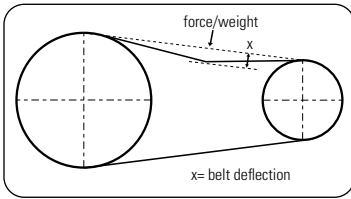
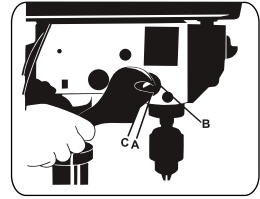

FIGURE 8.15 - BELT DEFLECTION
FIGURE 8.17
- Push the motor backwards until reaching the desired tension on the belt (Figures 8.15 and 8.16).
- The deflection should be 1/2" (x = 12,5mm) + 10% (Figures 8.15 and 8.16).
- When operating in places with a voltage different from the indicated, use a voltage transformer (not supplied with the product). Check the alignment of the pulleys and the belt tension before the first use (Figures 8.15 and 8.16).
- Place the screw driver in the lower front slit (A) on the spring cover (B), and keep it in this position while loosening and removing the nuts.
- Tighten the lower nut (C) with the tool.
- Check the spindle when moving the handle. The movement of the spindle must be smooth, without restricted movements. If the movement is too tight, loosen the nuts so that it moves without difficulty (Figure 8.17).